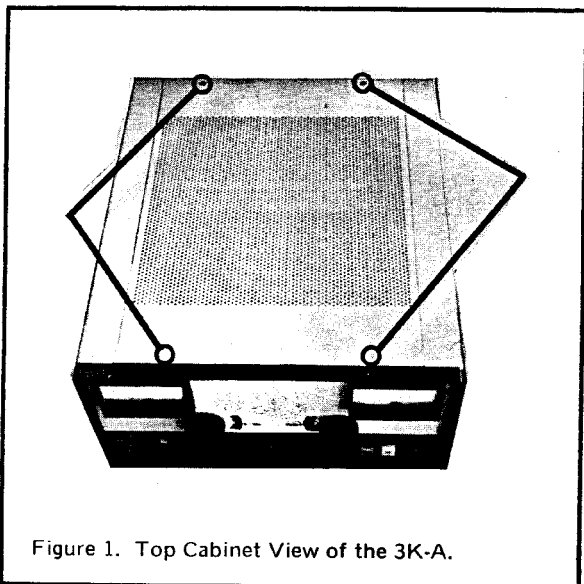

Figure 1. Top Cabinet View of the 3K-A.
- 2 Remove the perforated RF deck cabinet top by unscrewing the four counter-sunk screw holding the cover in place. Then lift the cover off (see Figure 1).